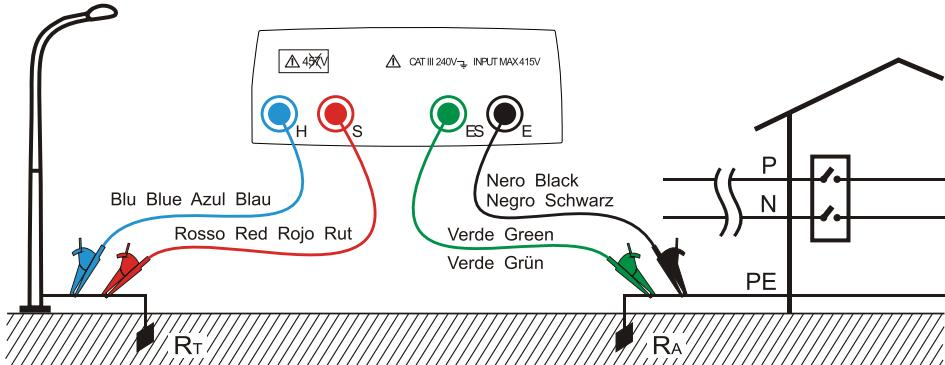

Fig. 3: Two-wire earth resistance measurement using an auxiliary rod
In Fig. 3 a lamp post is used as auxiliary rod, however any metal body driven into the ground can be used provided that the above mentioned requirements are met.
The instrument displays the sum value of $RA+RT$ as result (see Fig. 3 and Fig. 4). Therefore the measurement achieved is the closer to RA (prospective value) the more negligible is the value RT of the auxiliary rod with respect to RA itself. In addition the measurement will be increased "for safety sake" by RT , i.e. if $RA+RT$ results to be coordinated with protective conductors, RA alone will be far more coordinated
6. Connect crocodiles to the auxiliary rods and to the installation under test (see Fig. 3 and Fig. 4)